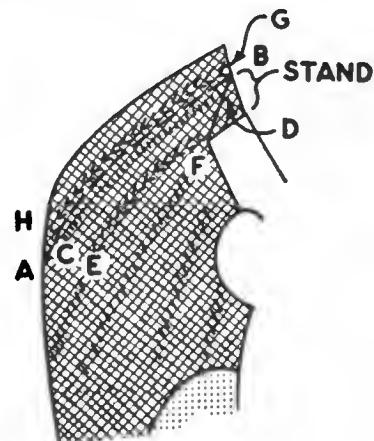

Fig. 206. Basting the interfacing.
- Try on the garment and check again for the breakline and the stand of the collar. Mark and baste this line (Fig. 206, A-B).
- D. Tailor-baste on the garment side of the breakline about an inch from the line (Fig. 206, C-D).
Make a row or two of pad-stitching (Fig. 206, E-F) a little more than an inch from the breakline.
Pad-stitch the collar, beginning at G in Figure 206 at the center back down to H and then back to the center back without turning the garment. Roll over fingers to shape. Continue the pad-stitching until the